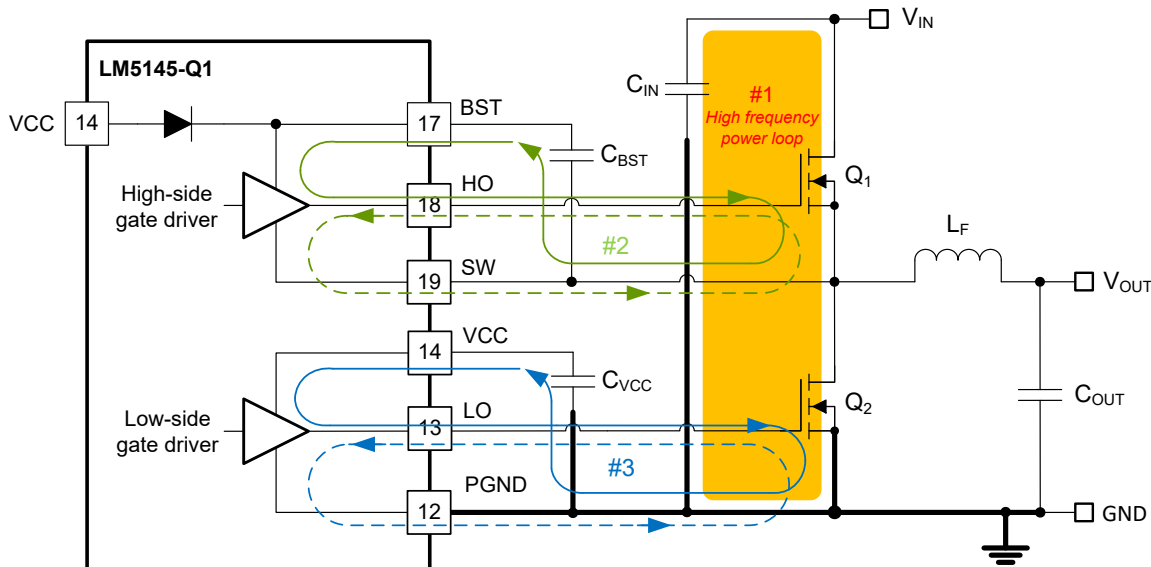

图 11-1. DC-DC Regulator Ground System With Power Stage and Gate Drive Circuit Switching Loops
Proper PCB design and layout is important in a high-current, fast-switching circuits (with high current and voltage slew rates) to assure appropriate device operation and design robustness. As expected, certain issues must be considered before designing a PCB layout using the LM5145-Q1. The high-frequency power loop of the buck converter power stage is denoted by #1 in the shaded area of 图 11-1. The topological architecture of a buck converter means that particularly high di/dt current flows in the components of loop 1, and it becomes mandatory to reduce the parasitic inductance of this loop by minimizing its effective loop area. Also important is the gate drive loops of the low-side and high-side MOSFETs, denoted by 2 and 3, respectively, in 图 11-1.
- Loop #1: The most important loop to minimize the area of is the path from the input capacitor or capacitors through the high- and low-side MOSFETs, and back to the capacitor or capacitors through the ground connection. Connect the input capacitor or capacitors negative terminal close to the source of the low-side MOSFET (at ground). Similarly, connect the input capacitor or capacitors positive terminal close to the drain of the high-side MOSFET (at VIN). Refer to loop #1 of 图 11-1.
5. The SW pin connects to the switch node of the power conversion stage and acts as the return path for the high-side gate driver. The parasitic inductance inherent to loop #1 in Figure 11-1 and the output capacitance (C_{OSS}) of both power MOSFETs form a resonant circuit that induces high frequency (> 100 MHz) ringing on the SW node. The voltage peak of this ringing, if not controlled, can be significantly higher than the input voltage. Ensure that the peak ringing amplitude does not exceed the absolute maximum rating limit for the SW pin. In many cases, a series resistor and capacitor snubber network connected from the SW node to GND damps the ringing and decreases the peak amplitude. Provide provisions for snubber network components in the PCB layout. If testing reveals that the ringing amplitude at the SW pin is excessive, then include snubber components as needed.
- Loop 2: high-side MOSFET, Q_1 . During the high-side MOSFET turnon, high current flows from the bootstrap (boot) capacitor through the gate driver and high-side MOSFET, and back to the negative terminal of the boot capacitor through the SW connection. Conversely, to turn off the high-side MOSFET, high current flows from the gate of the high-side MOSFET through the gate driver and SW, and back to the source of the high-side MOSFET through the SW trace. Refer to loop #2 of Figure 11-1.
- Loop 3: low-side MOSFET, Q_2 . During the low-side MOSFET turn-on, high current flows from the VCC decoupling capacitor through the gate driver and low-side MOSFET, and back to the negative terminal of the capacitor through ground. Conversely, to turn off the low-side MOSFET, high current flows from the gate of the low-side MOSFET through the gate driver and GND, and back to the source of the low-side MOSFET through ground. Refer to loop #3 of Figure 11-1.